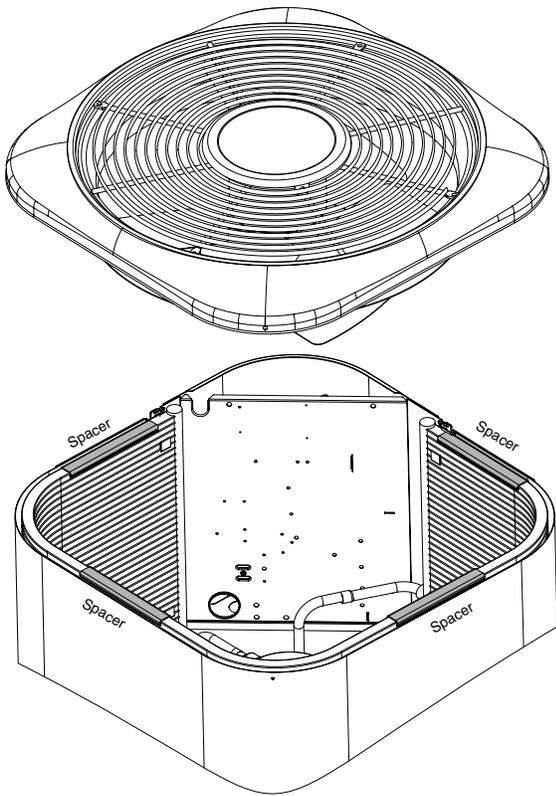

Figure 1. Spacer Kit Locations for Small Footprint Units
3. **For small footprint unit:** Place one long spacer on each short flat face of the coil (4 total). See Figure 1 and Table 1.